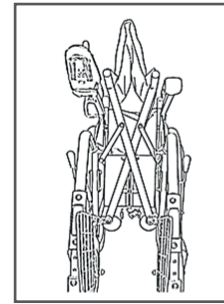
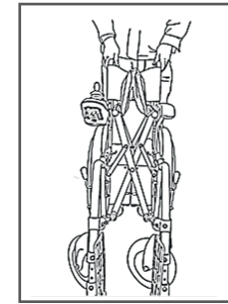
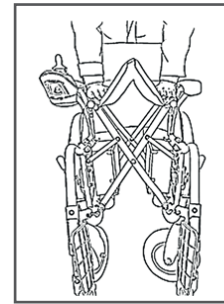
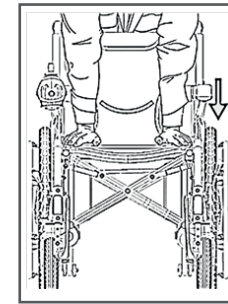

Figure 3
Figure 4
Figure 5
Figure 6
- Take the electric wheelchair out of the box. Lift up the folded backrest, press down on the seat back tubes at both sides, open the electric wheelchair until the seat cushion and back cushion are fully expanded. Refer to Figure 3, Figure 4, Figure 5 and Figure 6.